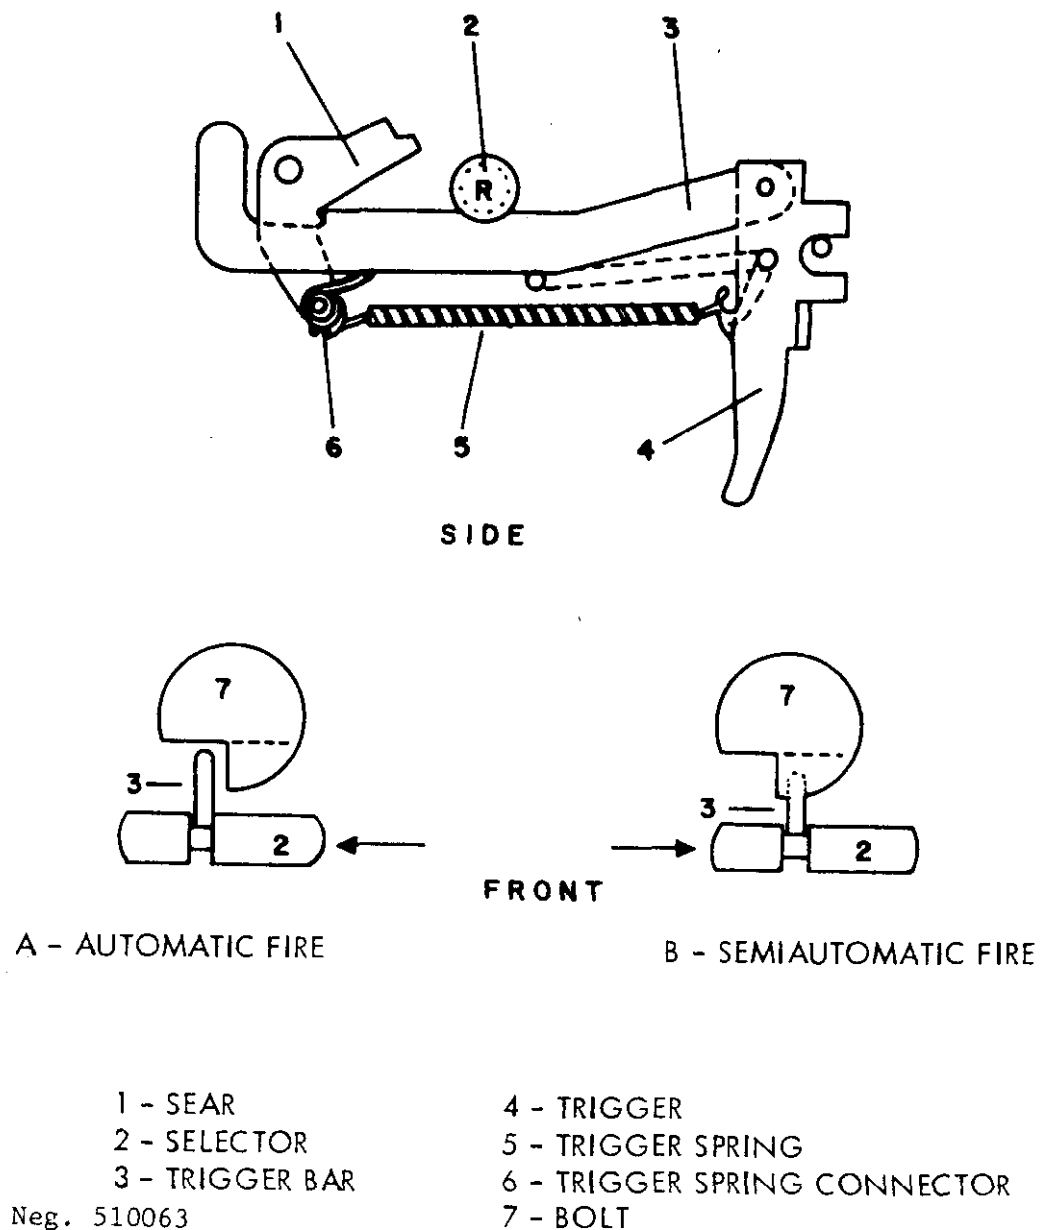

Figure 64. Sten trigger mechanism.
b. When a loaded magazine is in place and the gun is cocked and set for automatic fire (fig 64), pressure on the trigger moves the trigger bar (fig 64) forward. A notch in the trigger bar mates with the lower end of the L-shaped sear (fig 64), and as the trigger bar moves forward, it will cause the sear to rotate about its pin and release the bolt. The driving spring drives the bolt forward to strip a round from the magazine and drive it into the chamber. The fixed firing pin strikes the primer and fires the cartridge when it is fully chambered.
d. When the trigger is released, the trigger spring (fig 64) returns the trigger forward, and as the trigger bar moves to the rear, the front end of the trigger spring moves the sear to where it can intercept the bolt and stop the firing.
e. When the weapon's selector is set at semiautomatic (fig 64), the trigger bar is moved from its normal off-side location in the receiver to a central position. When the trigger is pressed, the trigger action is as described in paragraph b above; however, a cam on the bottom rear of the bolt acts on an extension of the trigger bar and forces the trigger bar out of engagement with the sear. The sear then returns to its normal position and intercepts the bolt so that only one shot is fired. The trigger must be released to allow the trigger bar to move rearward and reengage the sear prior to firing another shot.